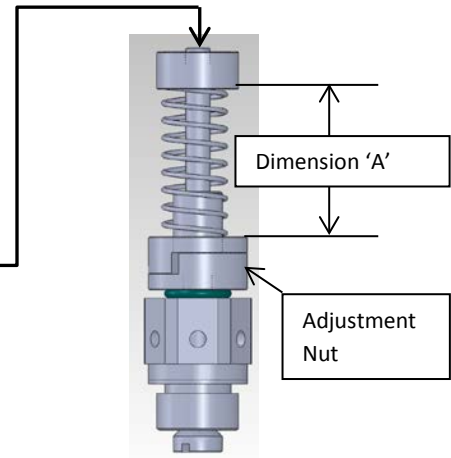

Figure 2
**or are of the style shown in Figure 2 which have a self locking**